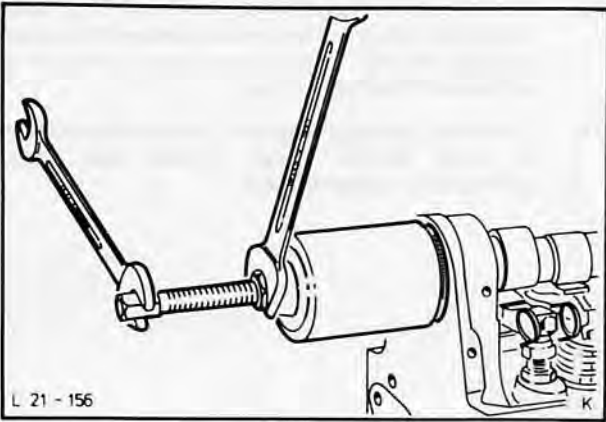

Fig. 161. Fit oil seal, using Special Tool 21-009-A
17. Lightly grease sealing lip of new oil seal and install oil seal, using Special Tool 21-009-A, Fig. 161.